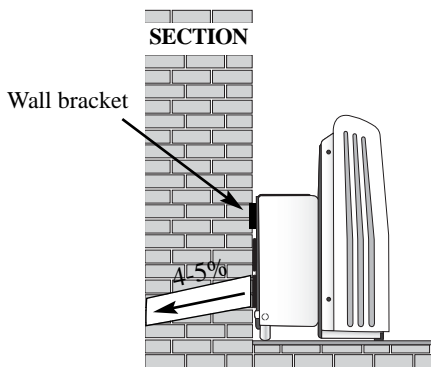

fig. 4
**IMPORTANT:** make sure that the downward inclination of the condensate drainage outwards is in the range of from 4 to 5% (fig. 4): slowly pour water into the condensing unit's condensate collection tray and then make sure that the pipe prepared above drains this water correctly.